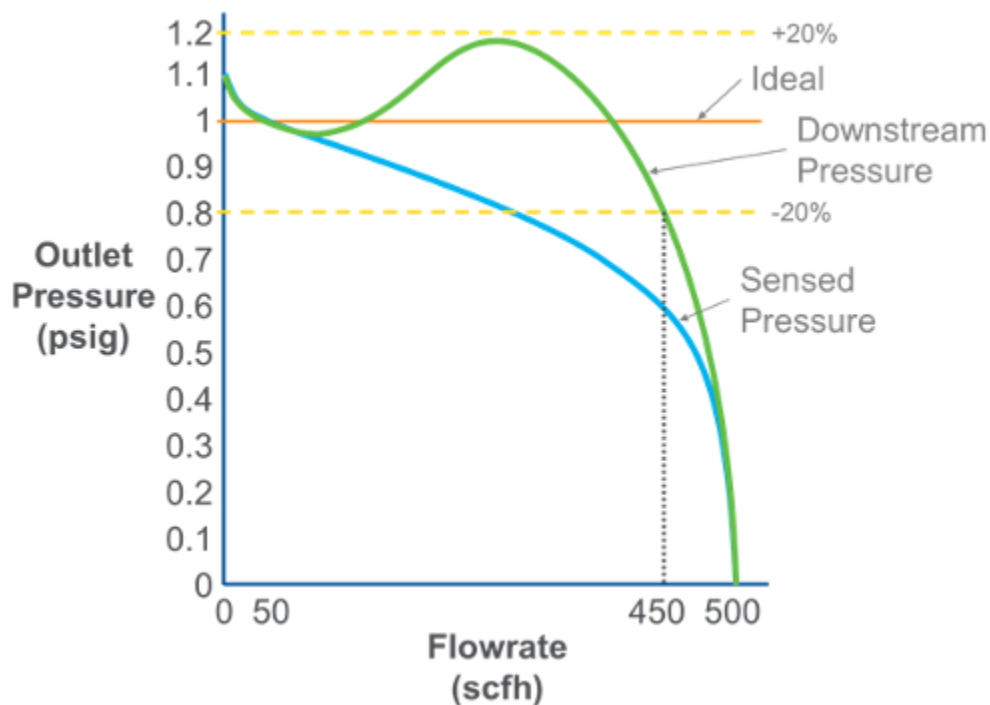

Figure 33. Regulator boost performance curve
published accuracy. Figure 33 is an example of an internally registered unit that boosts so much that it almost exceeds the upper accuracy bound. For 20% accuracy, the maximum flowrate published would be 450 SCFH which is much better than the 275 SCFH that would be published for the same regulator previously discussed with an external control line.
- Figure 33. “Regulator boost performance curve” from Emerson is used and adapted for educational purposes under the basis of fair dealing.